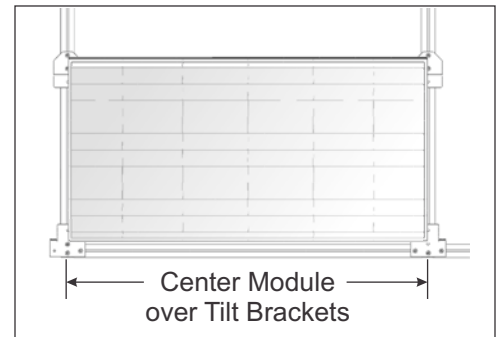

Figure 8-4: Centering the Module over the Tilt Brackets
- H. Using a tape measure, center the Module (from east to west) over the Tilt Brackets. Keep its frame pushed against the Front Tilt Bracket Tabs. (See Figure 8-4)